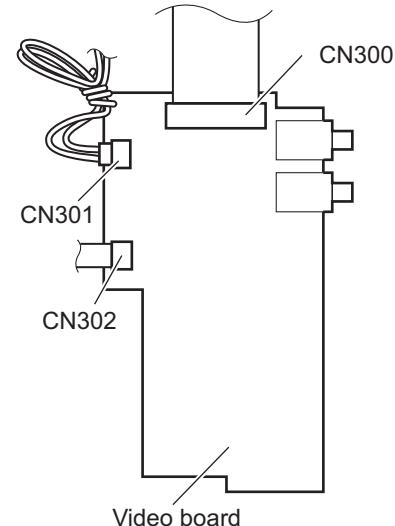

Fig.15
(See Fig.15)
(See Figs.15 and 16)
(1) From the forward side of the video board, disconnect the wire from connector CN301. (See Fig.15.)